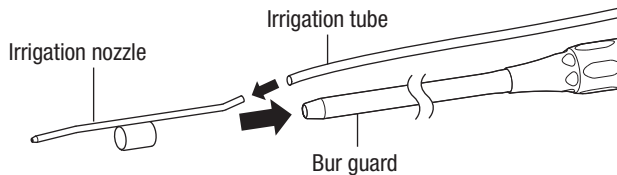

Fig. 5
- 1 Insert the irrigation nozzle onto the bur guard of the attachment/handpiece, making sure that the correct end of the irrigation nozzle goes in (Fig. 5).
- 2 Insert the irrigation tube into the irrigation nozzle (Fig. 5).